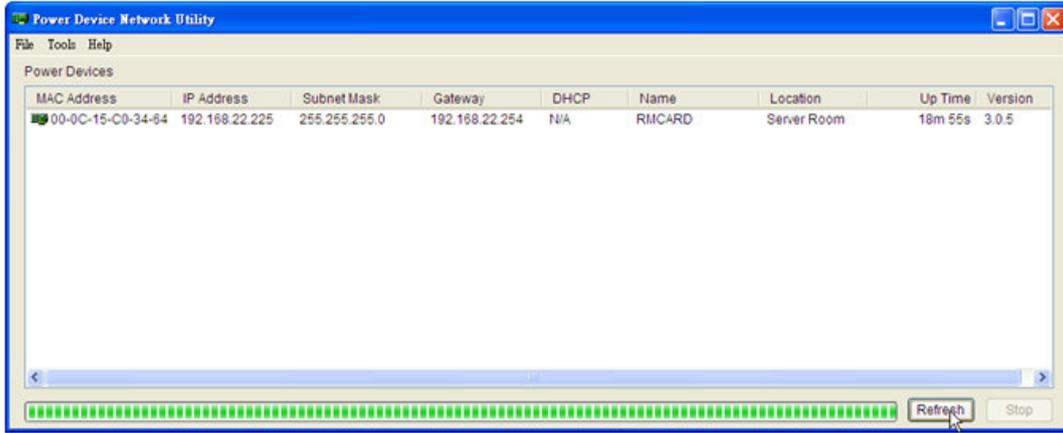

Figure 1. The main window of the "Power Device Network Utility" program.
3. The main dialog of the "Power Device Network Utility Tool" program is shown in Figure. 1. The configuration tool will display all Remote Management Cards of present on the same network. The "Refresh" button is used to search the entire local network for Remote Management Card.